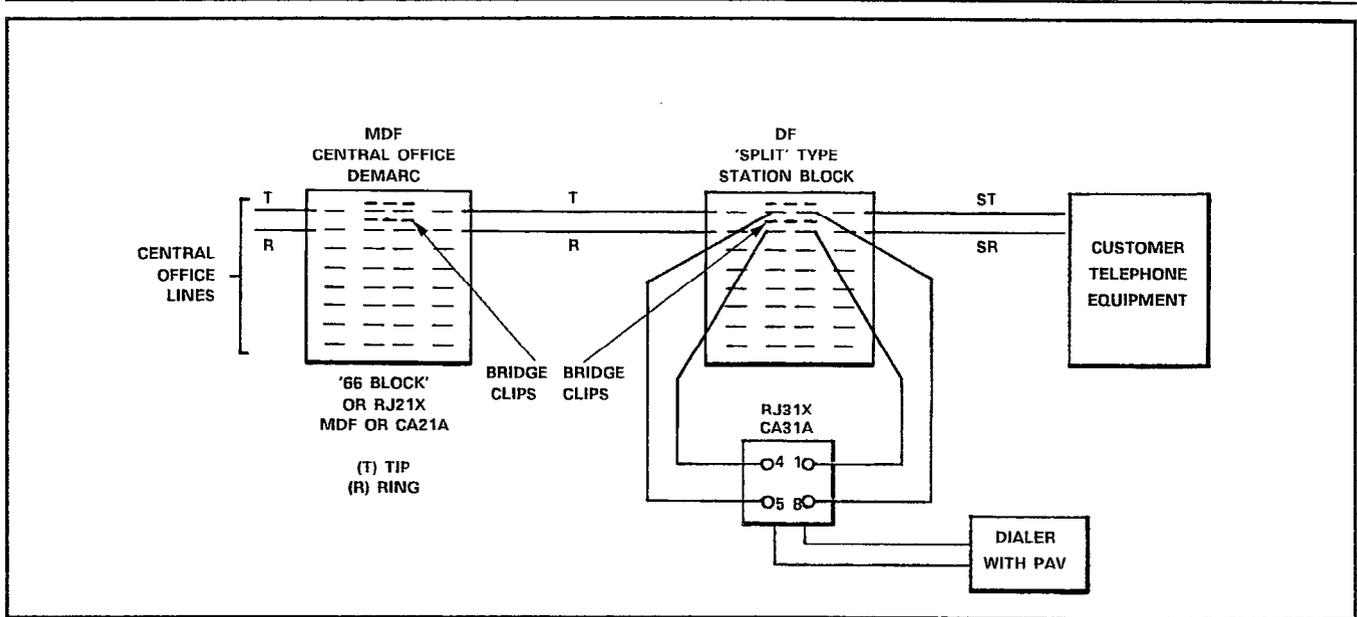
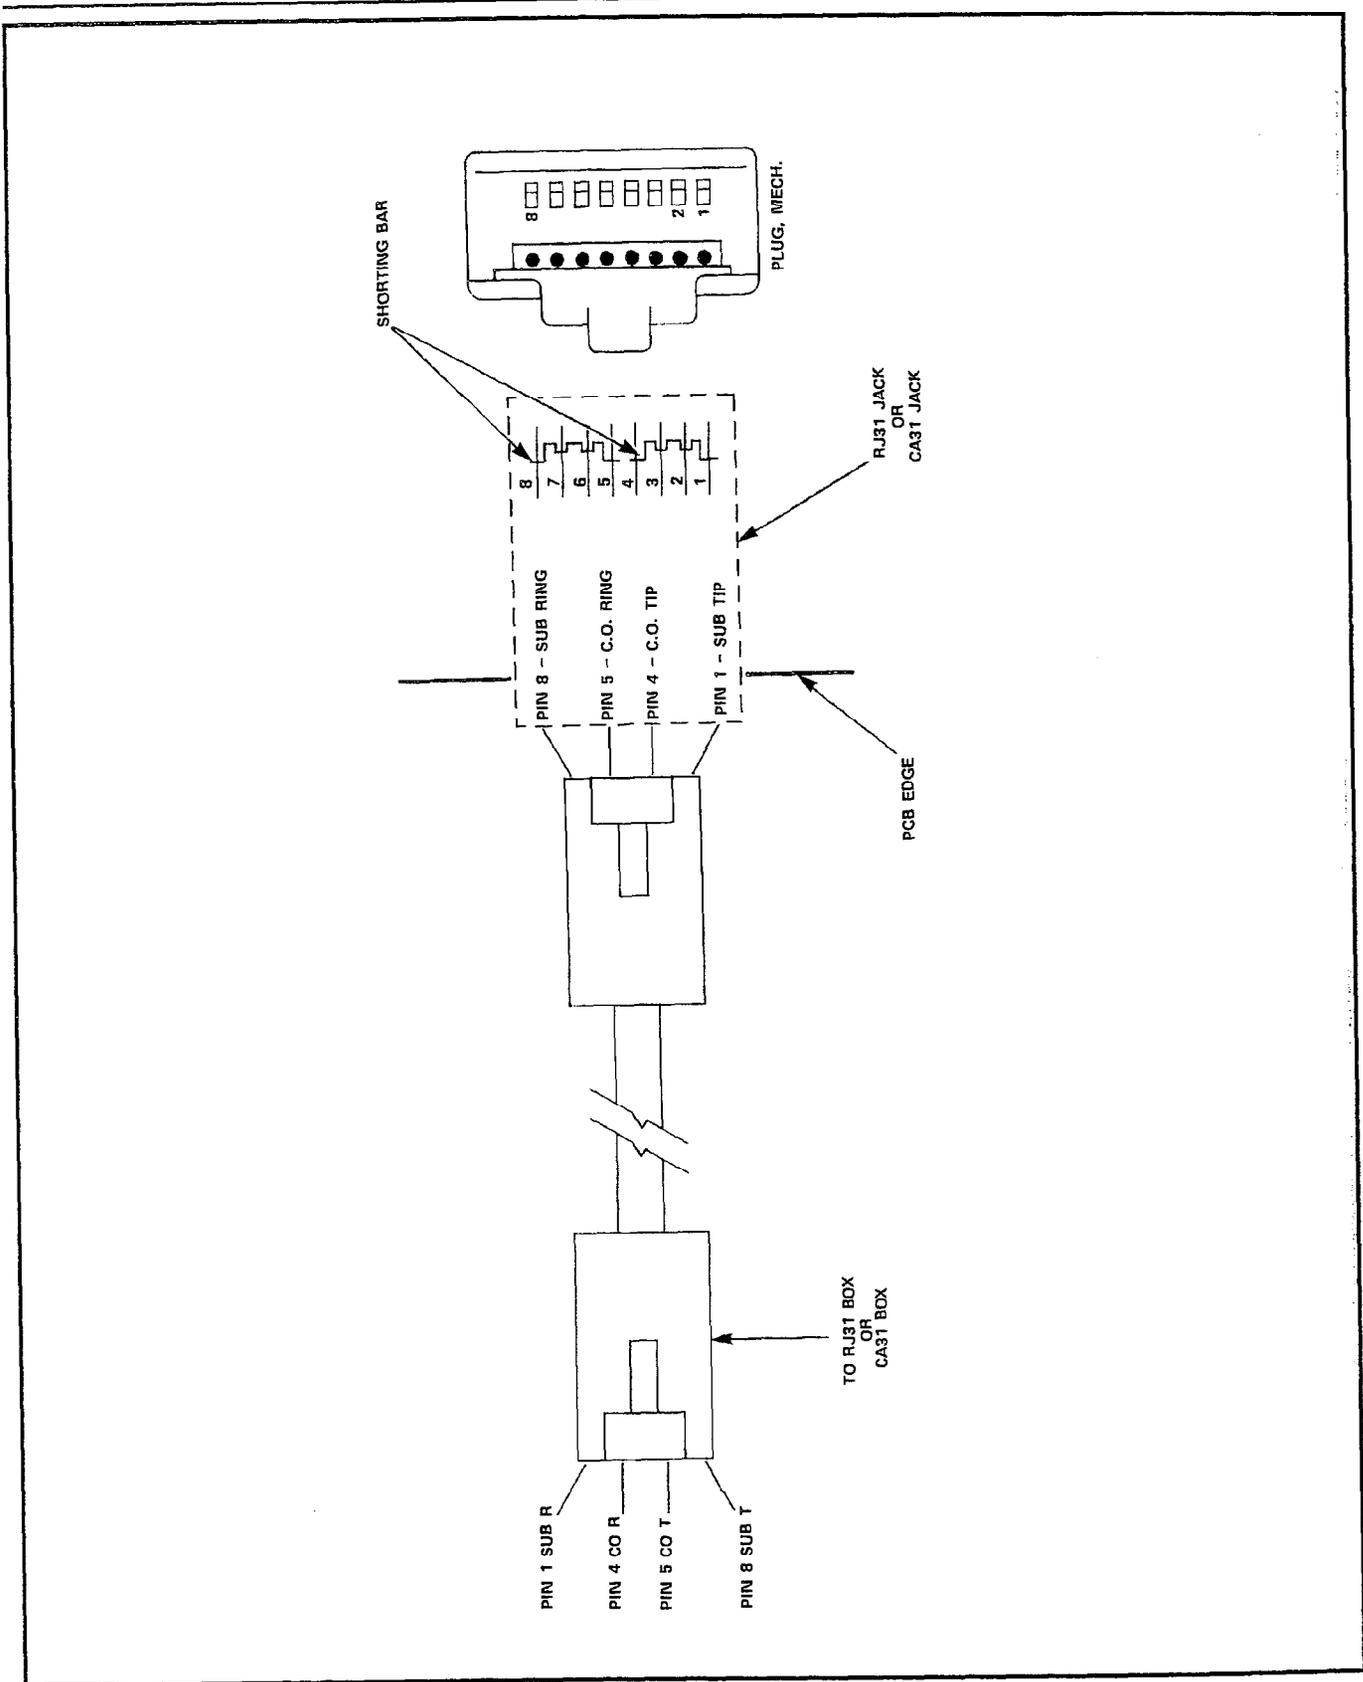

Figure 4-5, Typical Connection Configuration
Figure 4-7, USOC RJ31X Jack and Cable Assy.
4.15 Figure 4-7 illustrates the USOC RJ31X Connector and cable assembly as used by the Dialer. Figure 4-5 illustrates the installation wiring of the Telco-supplied RJ31X USOC jack and other connections from the Central Office. For the unit to operate properly, the bridge clips at the "split" type station block must be removed.